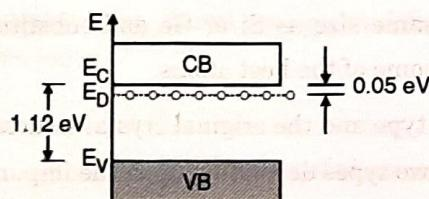

Fig. 3.7.2 : Donor level in n-type semiconductor
- The addition of an impurity adds an allowed energy level E_D at a very small distance below the conduction band as shown in Fig. 3.7.2.